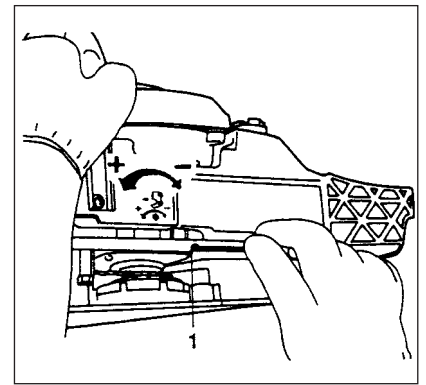

Fig. 2-1C
Turn the adjusting screw (1) counterclockwise to decrease the quantity and turn it clockwise to increase the quantity. (Fig.2-1C)